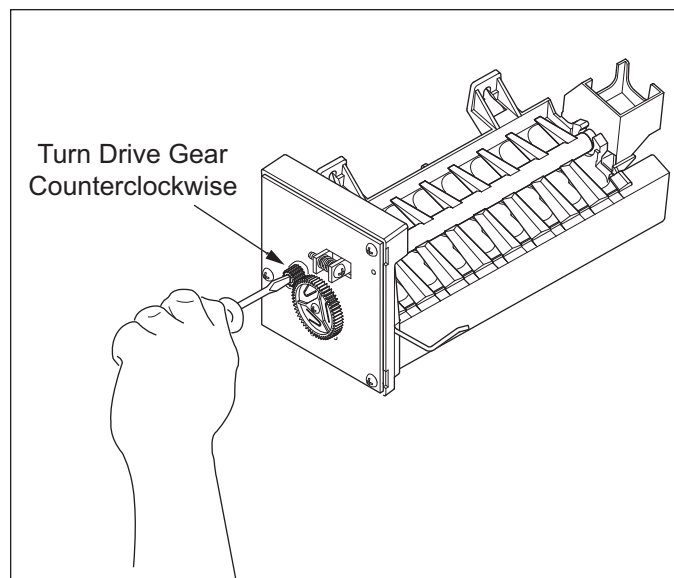

Figure 5-13. Manually Start Icemaker
2. With a flat-blade screwdriver, turn the drive gear counterclockwise until the holding switch is activated, completing the circuit to the drive motor (this is about a 1/8 turn). (See Figure 5-13) The icemaker then completes its cycle automatically.